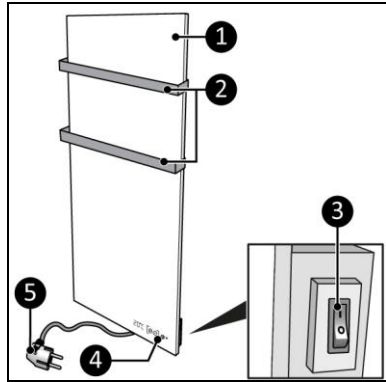
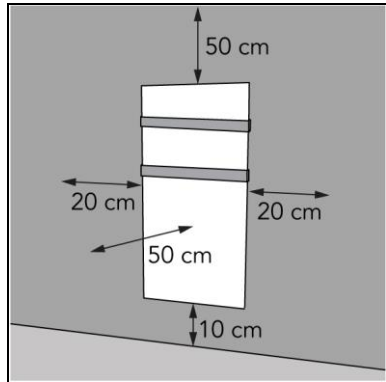

Figure 4
Figure 6
The Sani Wi-Fi (Figure 4) is an easy-to-use electric bathroom heater for use in zone 3 of the bathroom (Figure 6). The Sani Wi-Fi can be used with the Eurom Smart App.
2. Place the device with a minimum distance (Figure 6) of: